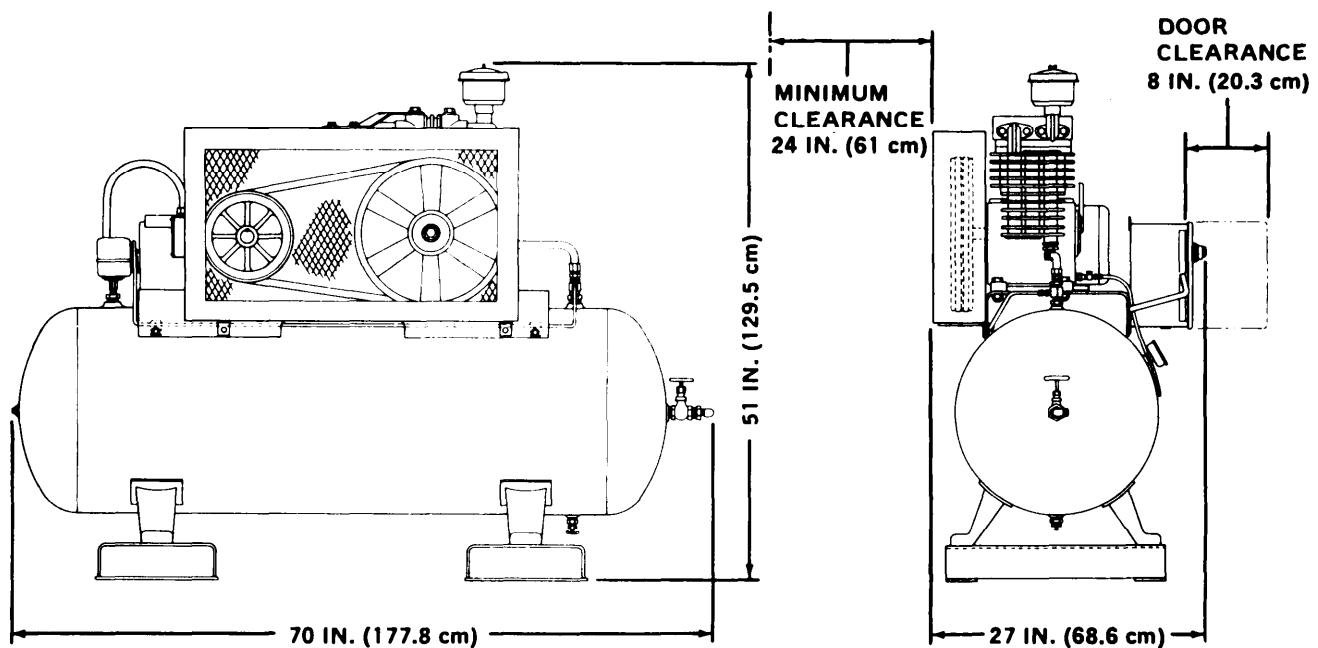

Figure 2-2. Unit floor mounting diagram.
- (1) Refer to Components of End Items List (Appendix C) and check to see if you have received all required items.
- (2) Refer to Additional Authorization List (Appendix D) and check to see if you have received additional items authorized for support of the air compressor.
- (3) Check for and tighten any loose mounting screws and nuts. Visually check for missing parts and for damage that may have occurred during shipment.
- (4) Position unit where there is adequate ventilation and air circulation for cooling. Installation must be at least 2 feet (0.6 meters) from wall to belt guard.
- (5) Secure unit to floor, when required. Refer to figure 2-2 for mounting diagram.